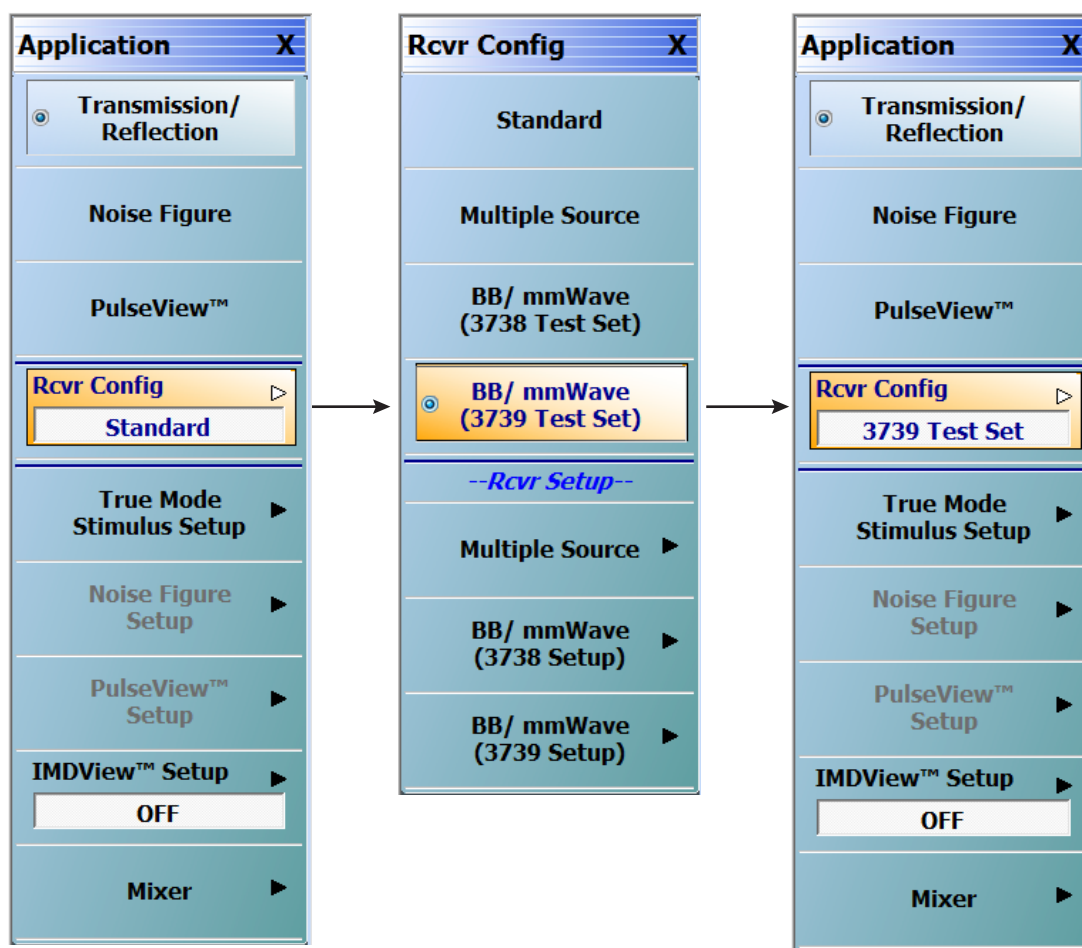

Figure 3-9. APPLICATION Menu – Receiver Configuration to 3739 Test Set (MS464xB Systems)
1. At the MAIN menu, select Application. The APPLICATION menu appears as shown in Figure 3-9.